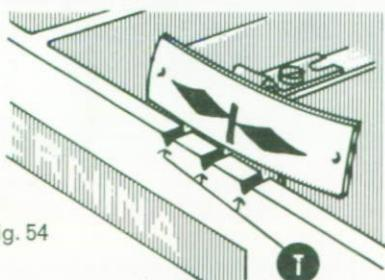

Fig. 54
In case you need to dismantle the machine completely, you'll notice on the upper arm three T-marks (Fig. 54). By means of these marks, the indicator can be set as described before, but opening and closing the upper arm cover is no longer necessary. The eccentric wheel (173) together with holding plate (172) can be taken out of the arm by pushing the bent part of tool (171) N 32 NU 24 through both holes in the plate and eccentric. Before replacing indicator, set scanner on cam no. 12. Whilst the needle tip almost touches the needle plate, the centre mark on the edge of the frame which is identical with the v-mark on the sight hole has to be opposite of the scale mark. After loosening pinion (155) replace indicator into machine and retighten with both screws (174).
sewn tight enough. When sewing, each thread should lie close together. Is the seam sewn too tight then the eccentric (156) (Fig. 54) should be turned anti-clockwise. Loosen screw but don't unscrew it fully.